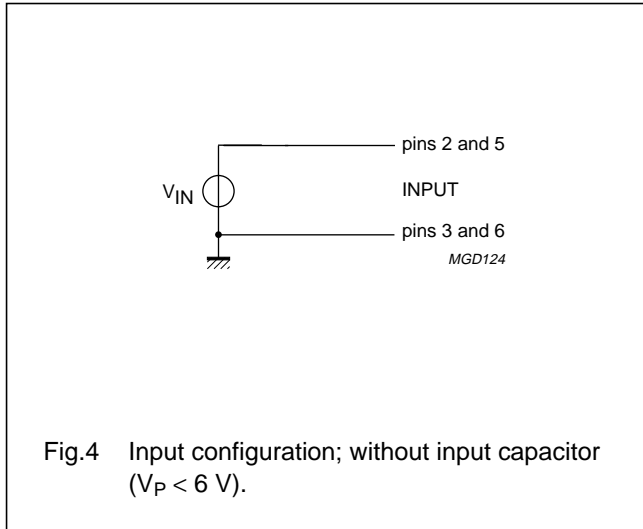
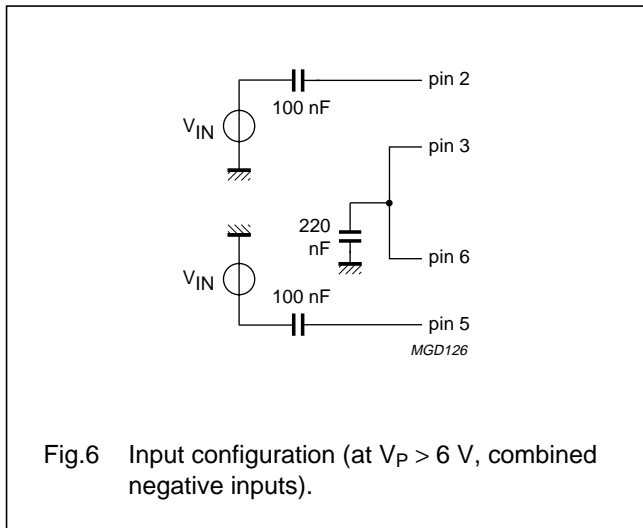
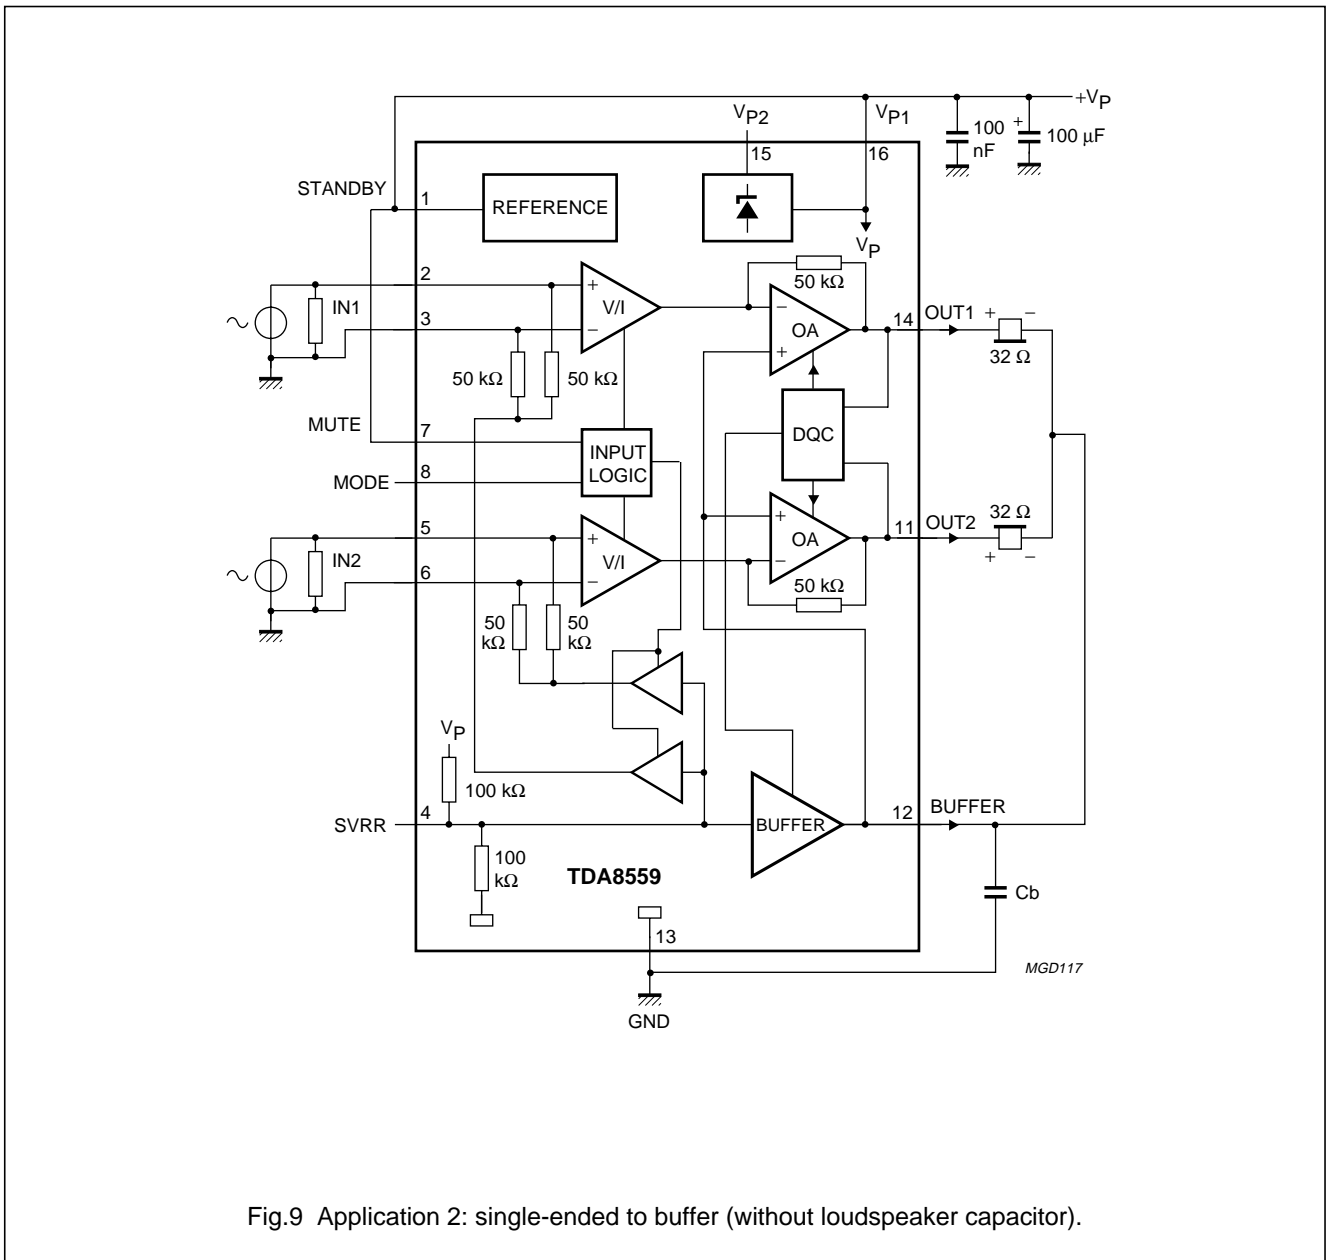
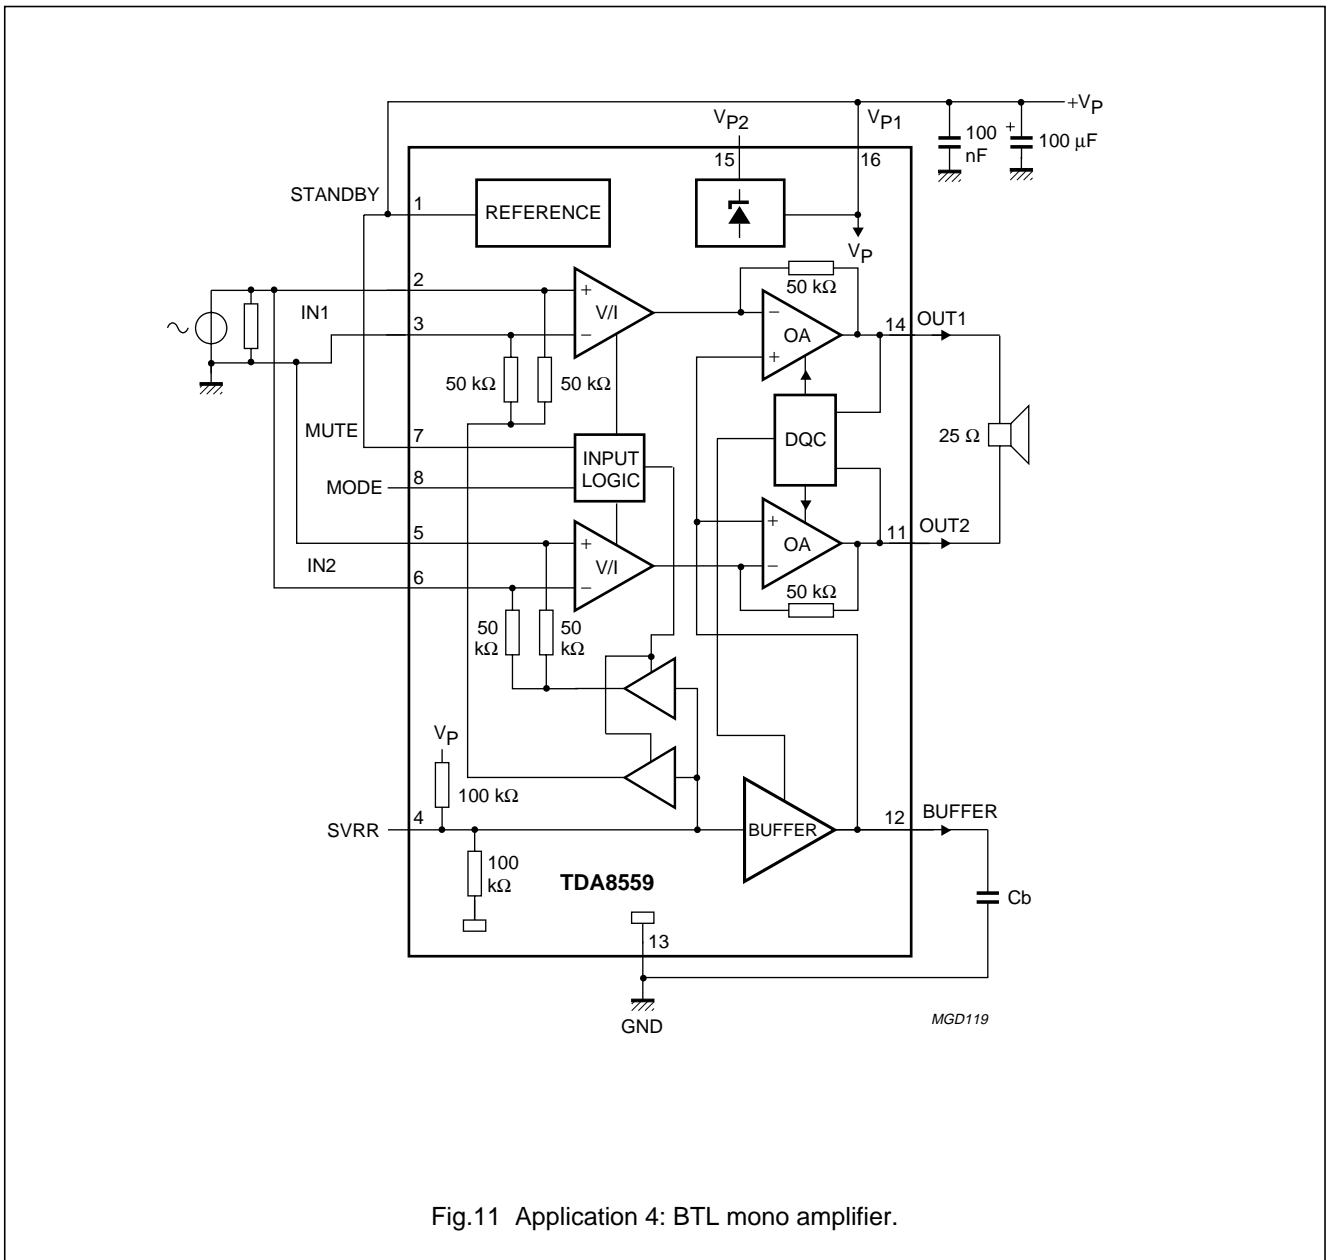

Fig. 4 Input configuration; without input capacitor ($V_P < 6\text{ V}$).
Fig. 6 Input configuration (at $V_P > 6\text{ V}$, combined negative inputs).
Fig.9 Application 2: single-ended to buffer (without loudspeaker capacitor).
Fig.11 Application 4: BTL mono amplifier.
The standard application is stereo headphone single-ended with a 32Ω load impedance to buffer (see Fig.9). The headphone amplifier can deliver a peak output current of 150 mA into the load.
- The graphs for the single-ended application have been measured with the application illustrated in Fig.9; input configuration for input mode low (Fig.4) and input configuration for input mode high (Fig.6).
- The graphs for the BTL application 'input mode low' have been measured with the application circuit illustrated in Fig.11 and the input configuration illustrated in Fig.4.
- The graphs for the line-driver application have been measured with the application circuit illustrated in Fig.13 and the input configuration illustrated in Fig.6; input mode high.
Application 2: SE to buffer (without loudspeaker capacitor) (see Fig.9)
Application 4: Bridge tied load mono amplifier (see Fig.11)